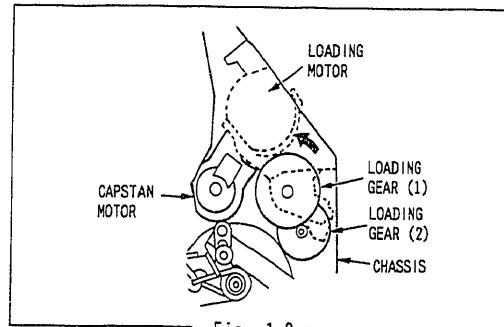

Fig. 1-3
- ① Remove the following parts in advance, referring to subsequent items.
- ② Turn the Loading Gear (1) in the direction of arrow (F) to unload. (Fig. 1-3)